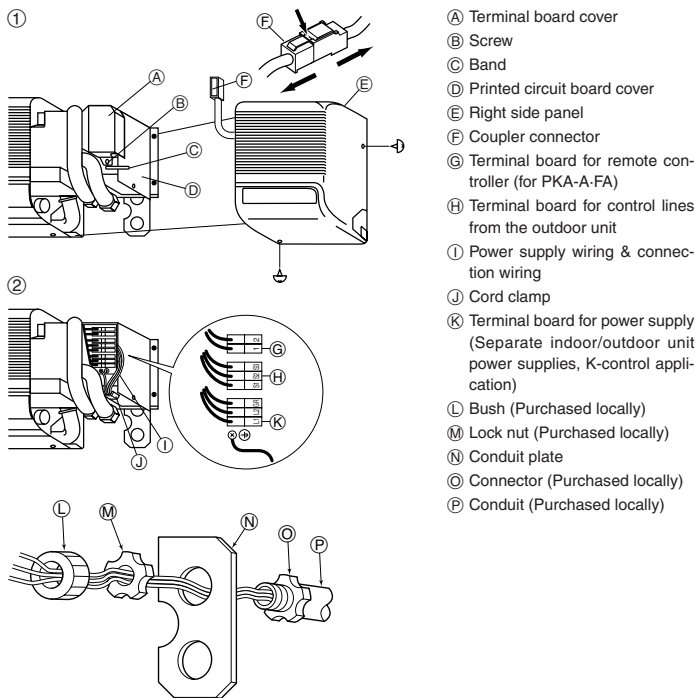

Fig. 6-1
- (G) Terminal board for remote controller (for PKA-A-FA)
- (H) Terminal board for control lines from the outdoor unit
- (I) Power supply wiring & connection wiring
- (J) Cord clamp
- (K) Terminal board for power supply (Separate indoor/outdoor unit power supplies, K-control application)
- (L) Bush (Purchased locally)
- (M) Lock nut (Purchased locally)
- (N) Conduit plate
- (O) Connector (Purchased locally)
- (P) Conduit (Purchased locally)
6.1. Indoor unit (Fig. 6-1)
① Remove the right side panel.